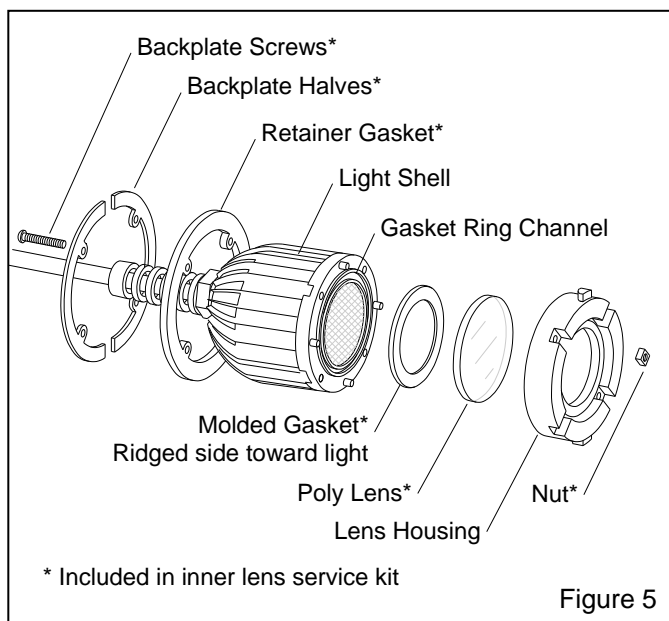

Figure 5
5.2 Removing and Servicing the Inner Poly Lens and Lens Housing, refer to Figure 5
Note: The inner lens service kit include all items shown with an asterisk in Figure 5. The following instructions assume all the service kit items will be replaced.